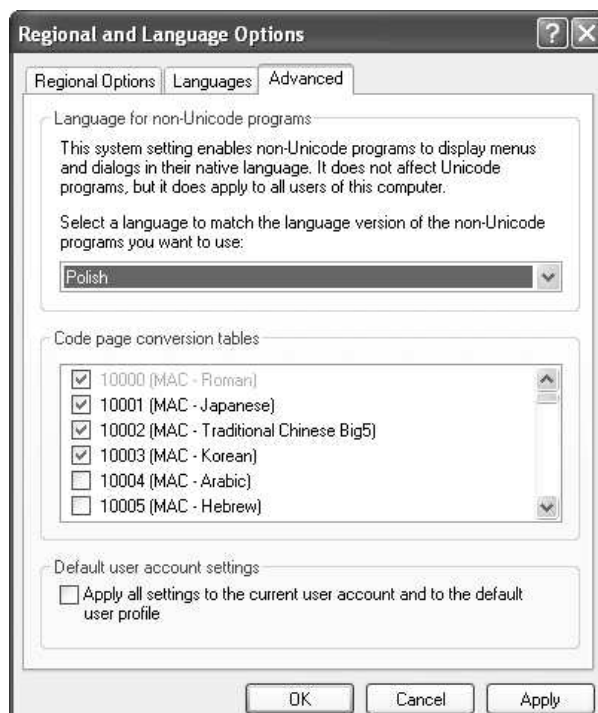

Figure 28. Regional and Language Options: Advanced Tab View
3. Click on the *Advanced* tab in the Regional and Language Options dialog. The pop-up window will change as shown in Figure 28.